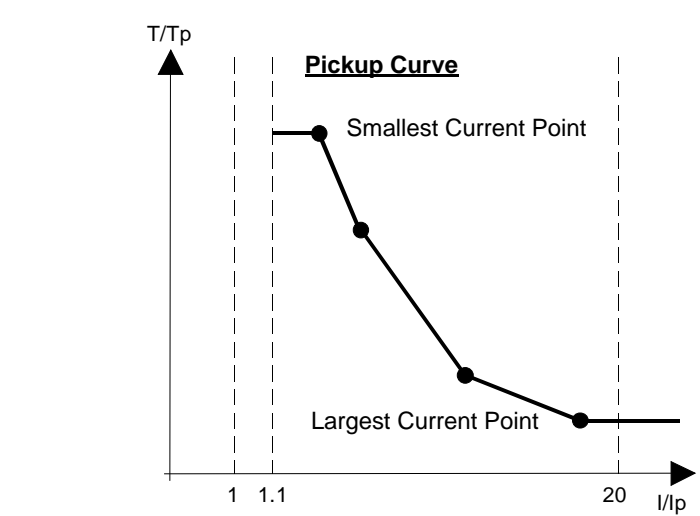

Figure 6-39 Use of a User Defined Curve
- Current flows less than the smallest current value entered will not lead to an extension of the tripping time. The pickup curve (see Figure 6-39) continues, from the smallest current point parallel to the current axis.
- Current flows greater than the highest current value entered will not lead to an abbreviation of the tripping time. The pickup curve (see Figure 6-39) continues, from the largest current point parallel to the current axis.